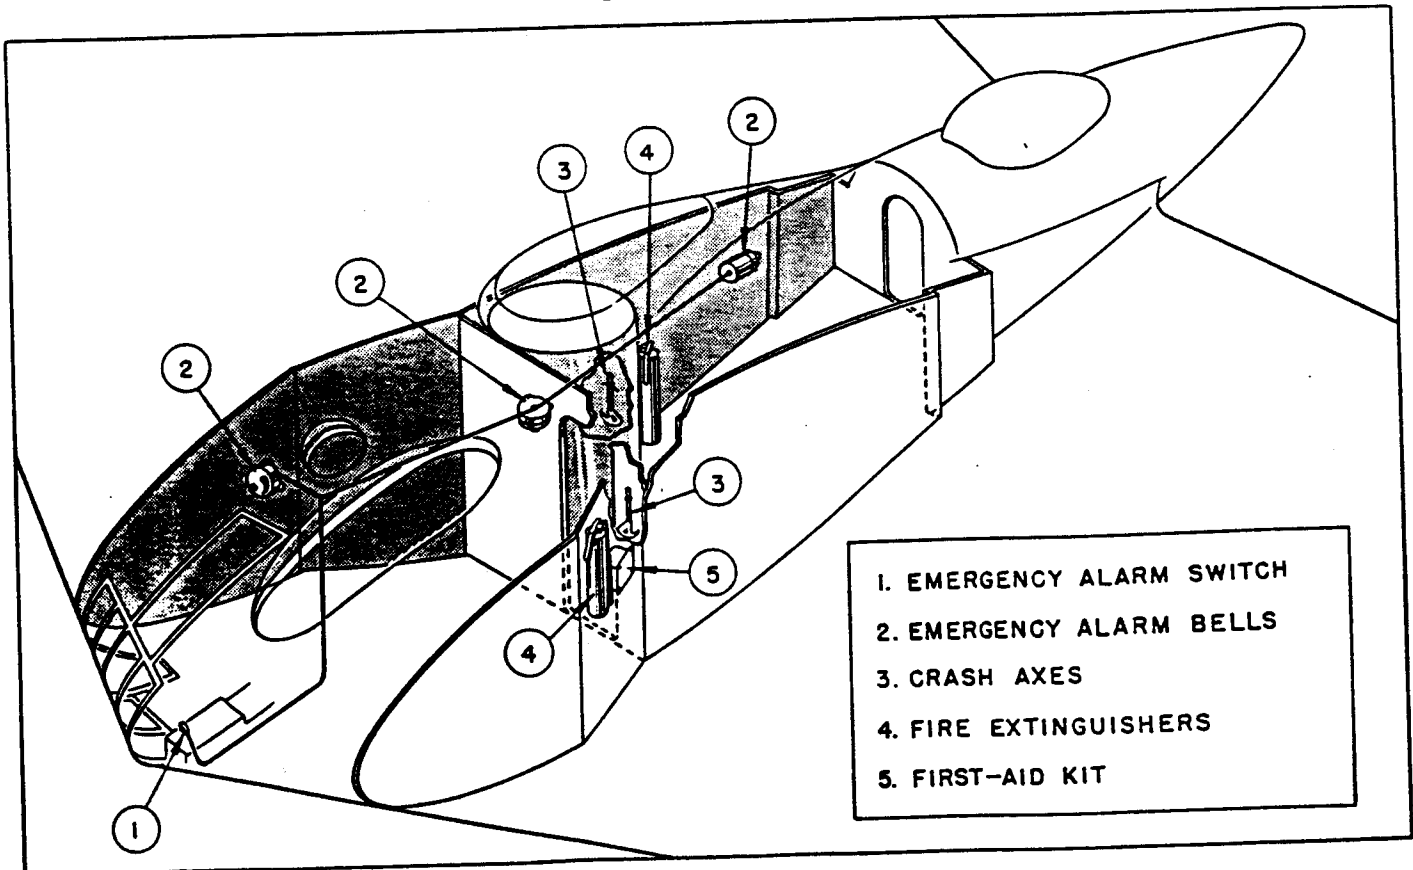

Figure 4. Emergency Equipment
b. EMERGENCY EQUIPMENT. (See figures 4 and 5.)
(1) FIRST AID KIT.- A Type 42D7411 first aid kit is attached to the frame to the left of the radio operator.
(2) CRASH AXES.- Two Type 42D8331 crash axes are carried in the airplane. One is